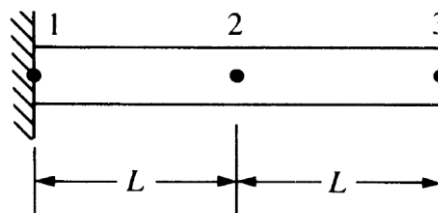

Figure 7
7. Determine the Eigen values and Eigen vectors of the bar shown in figure 7